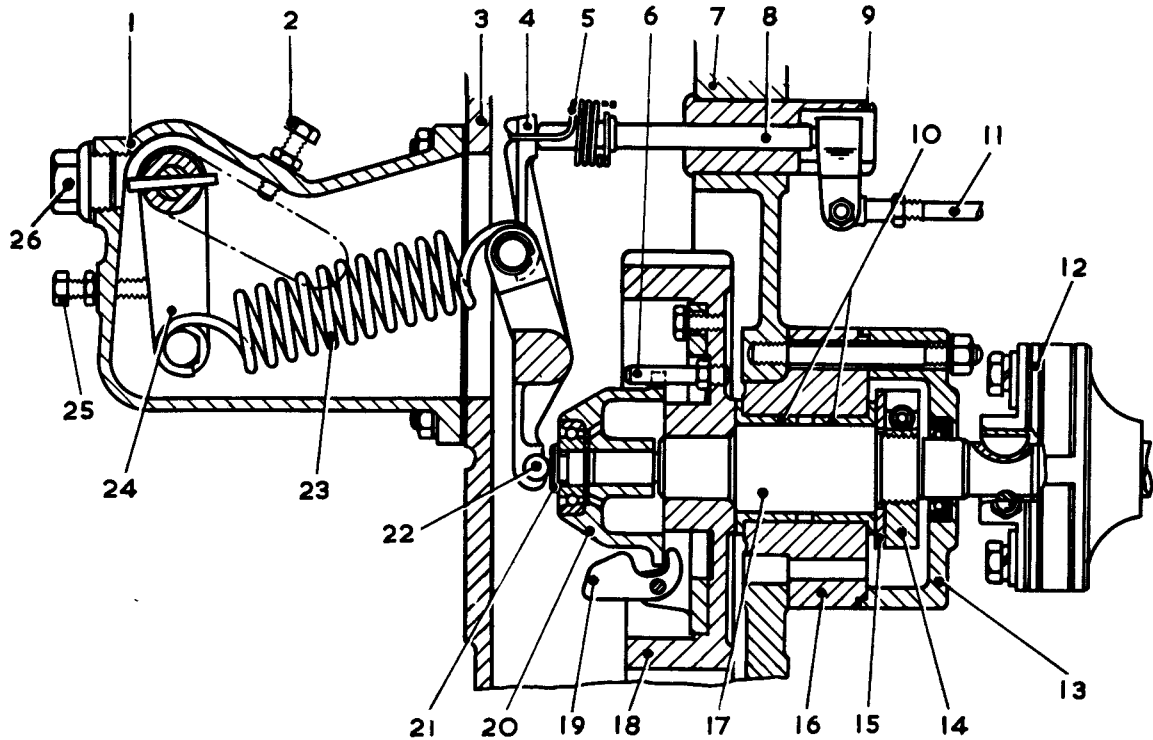

Fig.23 Governor mechanism
- (19) Unhook the speeder spring (5 in fig. 23) from the lever (4) (through opening in top of gear cover).
Governor gear (fig. 23)
- (12) Put back the governor sleeve and thrust pad (20, 21 in fig. 23) and fit the gear cover (3) complete with the governor control linkage. Hook the governor pushrod spring (5) over the lever (4) (through opening in top of gear cover).
- (13) Tighten the sump nuts.
- (14) Fit the removable journal bearing and its housing and oil seal, the crankshaft belt pulley and the hand-starting dog.
- (15) Fit the flywheel and the power take-off shaft; ensure that each is located by three dowels.
- (16) Put back the oil filler bend, dipstick tube and dipstick.
- (17) Fit the main oil gallery and the oil filter adapter, filter and intake pipe. Fit the fuel feed pump.
- (18) On top of each piston place two pieces of lead wire ($\frac{1}{2}$ in. long by about 0.048 in. dia.) opposite each other, at right angles to the gudgeon pin and clear of the valve recesses. Fit the cylinder heads and pass the pistons over T.D.C. Remove the heads, measure the thickness of the flattened wires and compare the results with the designed